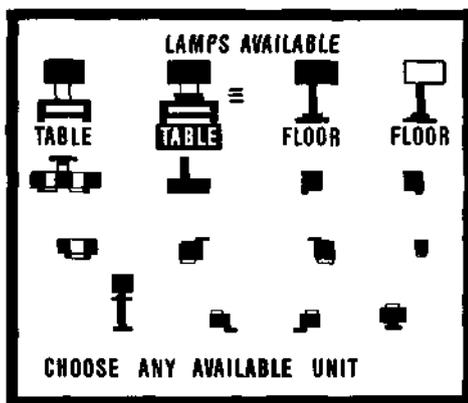

FIGURE 18
- 1 Choose either lamp or appliance with the joystick and press the button. In this case choose lamp. A screen of lamps will be shown, Figure 18. Names only appear under those units suitable for the location you have chosen. You cannot choose a chandelier if you have chosen a floor position. Select one of the lamps shown and press the joystick button. Later you may wish to select an **APPLIANCE** instead of a **LAMP** in step 1. In which case you will be shown a screen of appliances to choose from. And again you will not be able to choose say a TV if you had chosen a ceiling position.